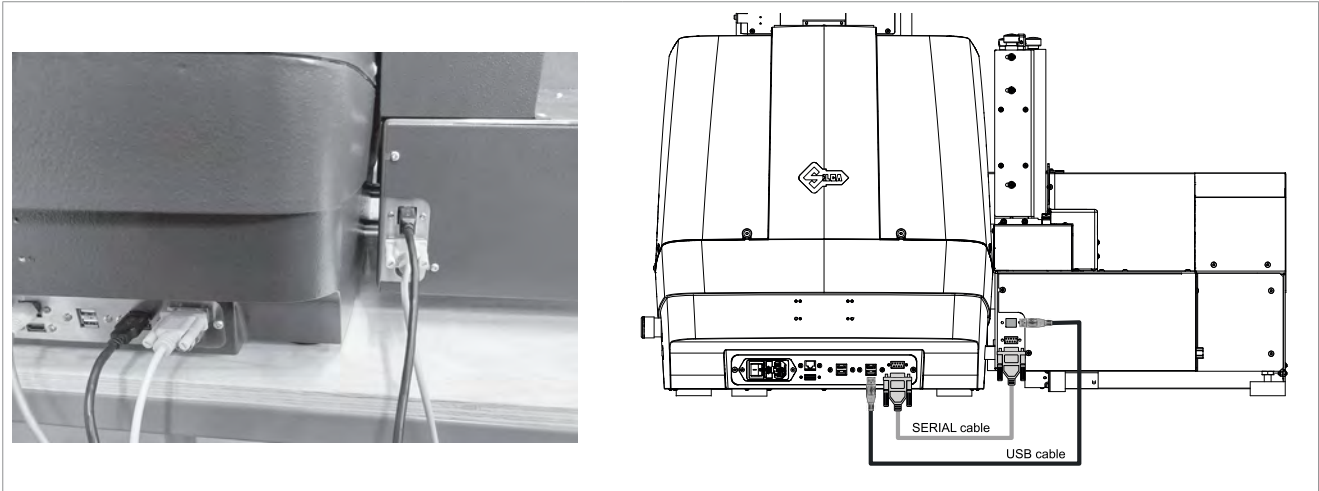

Fig. 129
- 1) Turn off the machine with the master switch (B) on the back.
- 2) Check connection of the cables between the machine and feeder (Fig. 129).